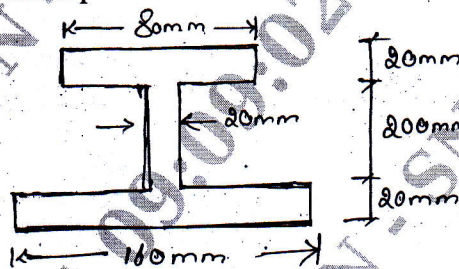

Fig.Q9(b)
b. The unsymmetric I-section is shown in Fig.Q9(b) is subjected to shear force of 40 kN. Draw shear stress variation across the depth.